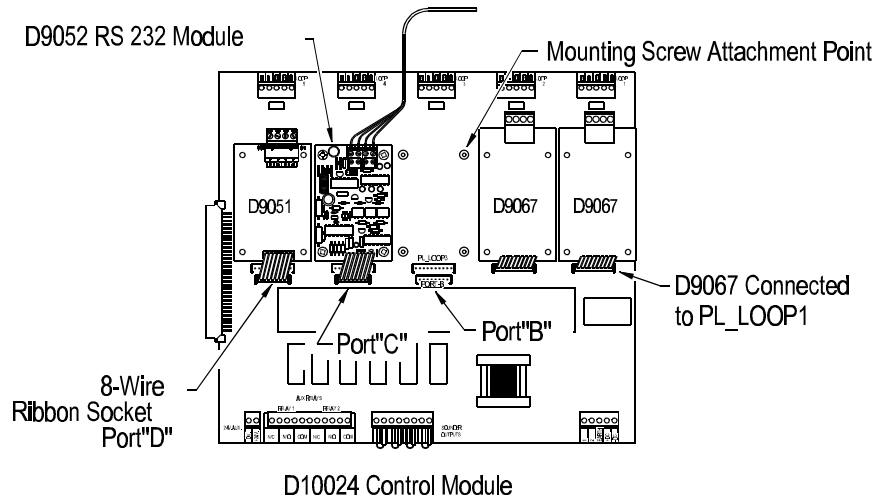

Figure 2: D10024 Control Module Configuration
- Depending on the circuit configurations, both the D9052 and the D9067 Circuit Modules may be mounted to the same four attachment points at Port B and Port C on the D9024 and D10024. A 10-wire ribbon socket is above an 8-wire ribbon socket at each of these two ports. See Figures 2 and 4.
- In a system configuration where it is necessary to mount both the D9052 Module and the D9067 Module in the same location, the D9067 module always mounts next to the Control Module board. Remove the four 6mm screws that attach the D9067 to the Control Module and replace them with the four 30 mm pillars that are included with the D9052 Module. Use the four 6 mm screws to attach the D9052 to the 30 mm pillars. See Figures 2, 3, 4 and 5..